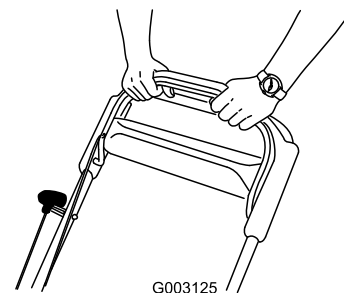

Figure 17
3. Hold the blade control bar against the handle (Figure 17).